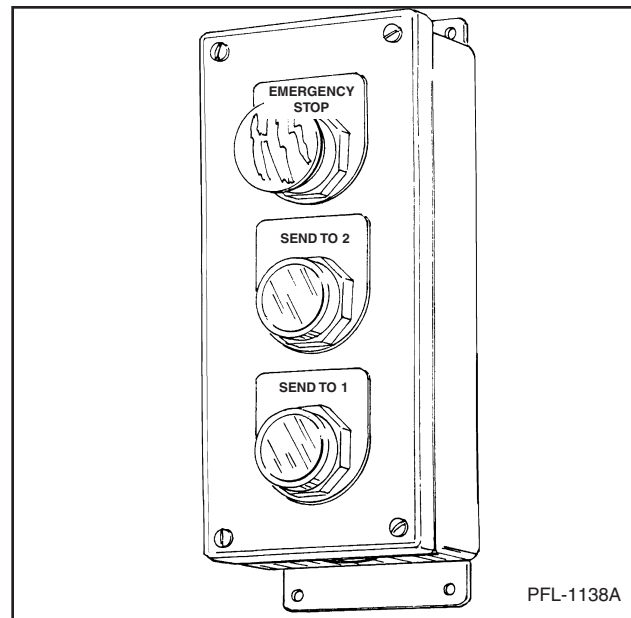

Figure 14
- If an emergency occurs when the carriage is moving, push the EMERGENCY STOP button. The button will keep the lift inoperative until the button is pulled back out. See Figure 14.